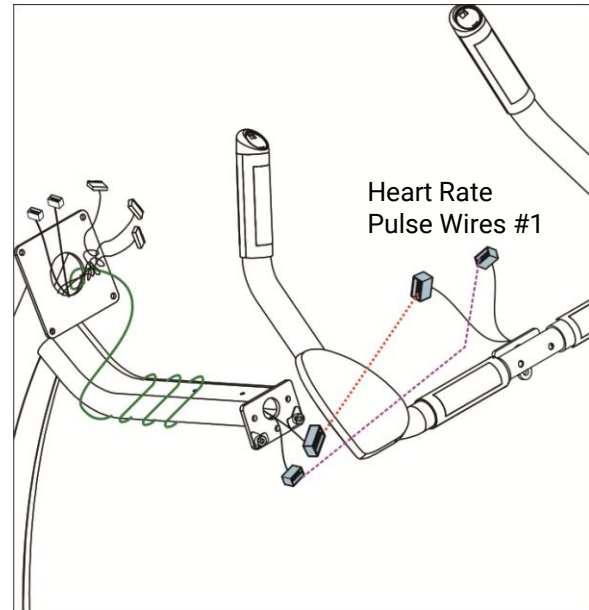

Fig 2.5-7A
- 1) Connect the **Heart Rate Pulse Wires #1** properly as shown in Fig 2.5-7A.